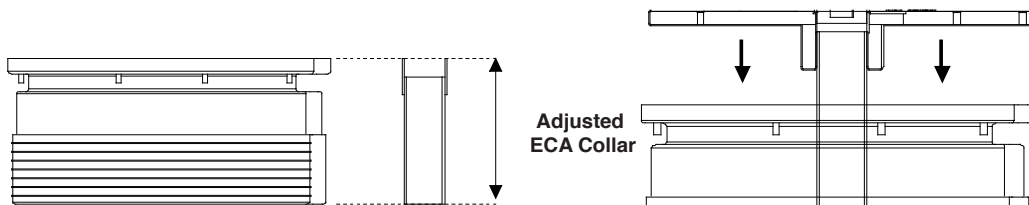

Figure 1: The Pipe Extension must be the same height as the trimmed ECA Collar
- 5) The extension pipe and coupling assembly need to be trimmed to the same height as the adjusted collar assembly (as shown). Glue the pipe and coupling to the bottom of the pipe that is attached to the Trapzilla cover (figures 1&2).